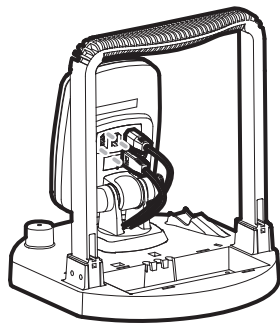

Figure 35
3. Connect the cables to the control head. The slots for the plugs are keyed to prevent reverse installation, and insertion should be easy. Do not to force the connectors into the control head. (Figure 35)